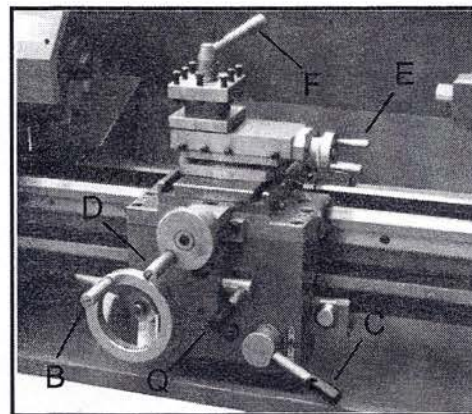

Fig. 15
10. Longitudinal Traverse (B, Fig. 15)
11. Half Nut Engage Lever (C, Fig. 15)
12. Cross Traverse Handwheel (D, Fig. 15)
13. Compound Rest Traverse Lever (E, Fig. 15)
14. Tool Post Clamping Lever (F Fig. 15)
15. Corss/Longitudinal Power Feed Lever (Q Fig. 15)